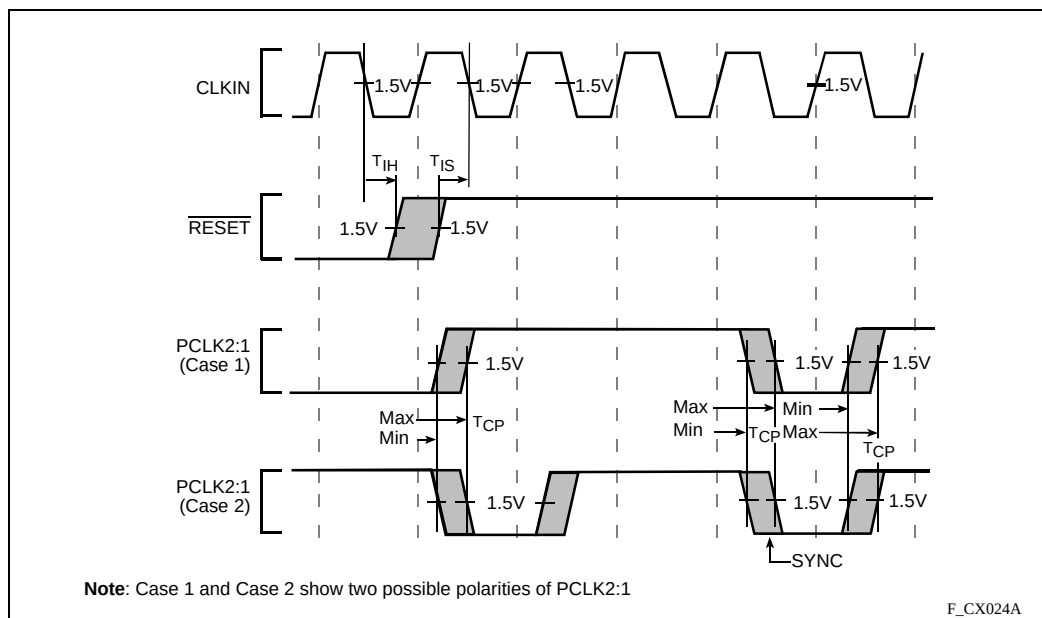

Figure 22. Clock Synchronization in the 2-x Clock Mode
- In 2-x clock mode, $\overline{RESET}$ is an asynchronous input which has no required setup and hold time for proper operation. However, to guarantee the device exits reset synchronized to a particular clock edge, the $\overline{RESET}$ pin must meet setup and hold times to the falling edge of the $CLKIN$. (See Figure 22.)